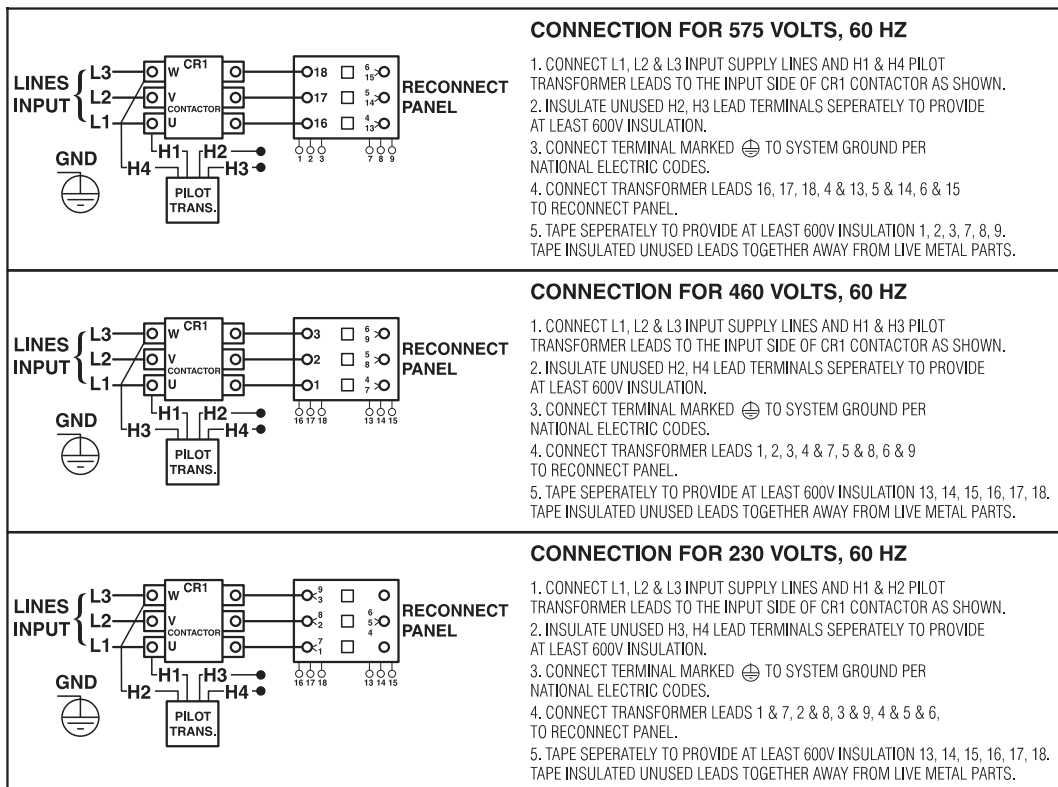

FIGURE A.5-Reconnect Panel Board Positions for 230/460/575 VAC Machines
2. For 230/460/575, see Figure A.5. (M15666)